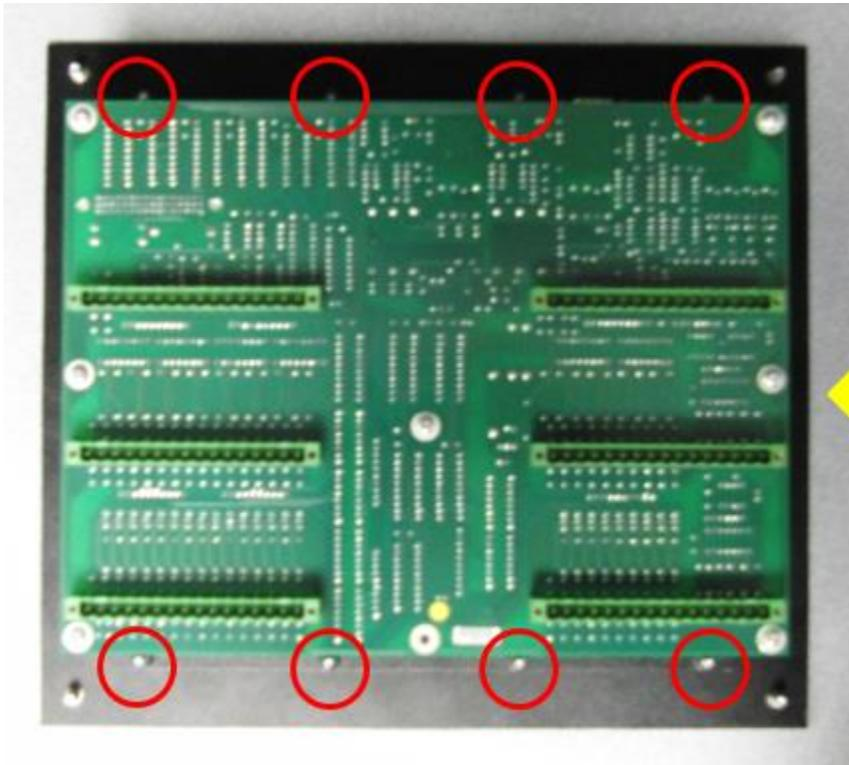
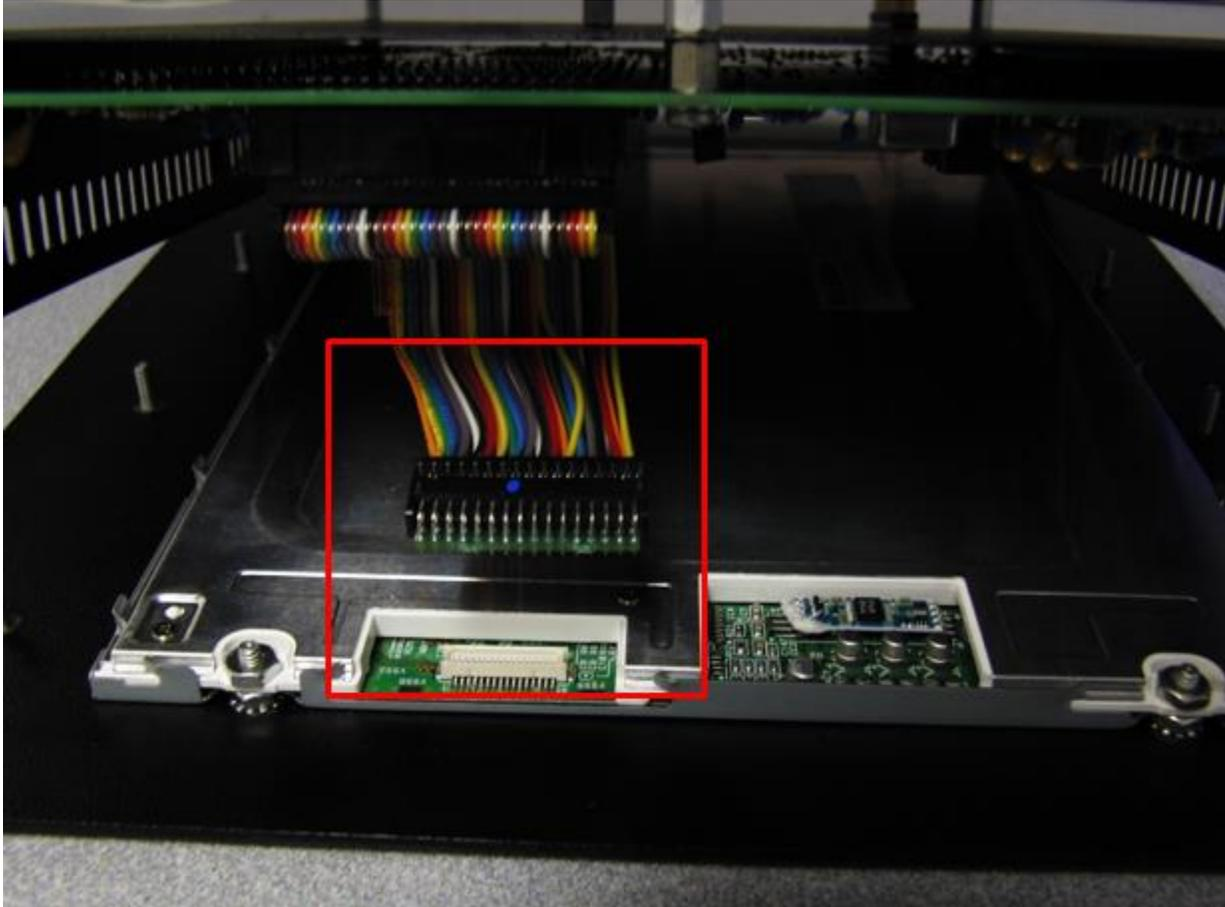

Figure 6 - XL200 with back cover removed
Figure 7- Black connector removed
5. Remove the 8 nuts circled in red in Figure 6.
6. Lift the circuit boards slowly from the right side as shown in Figure 6. While lifting, remove the strand of wires from the front panel. This is done by pulling the black connector straight up off of the front panel as shown in Figure 7.